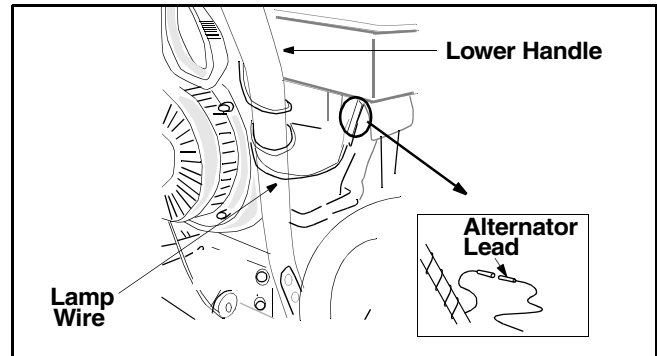

Figure 13
- Unwrap the headlight wire which is attached to the headlight beneath the handle panel. Wind the headlight wire around the right handle until excess slack is removed. See Figure 13.